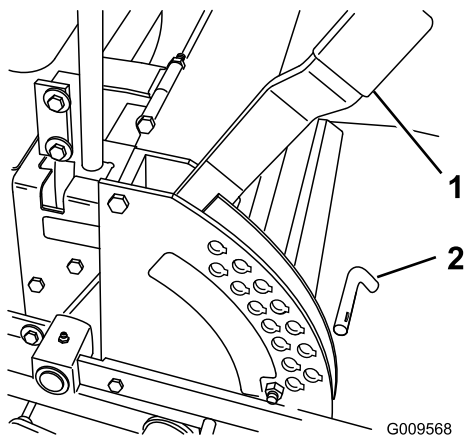

Figure 21
1. Raise the height-of-cut lever to the transport position (also the 5 inch (127 mm) cutting height position) (Figure 21).
2. To adjust, remove the pin from the height-of-cut bracket (Figure 21).
3. Select a hole in the height-of-cut bracket corresponding to the height-of-cut desired and, insert the pin (Figure 21).